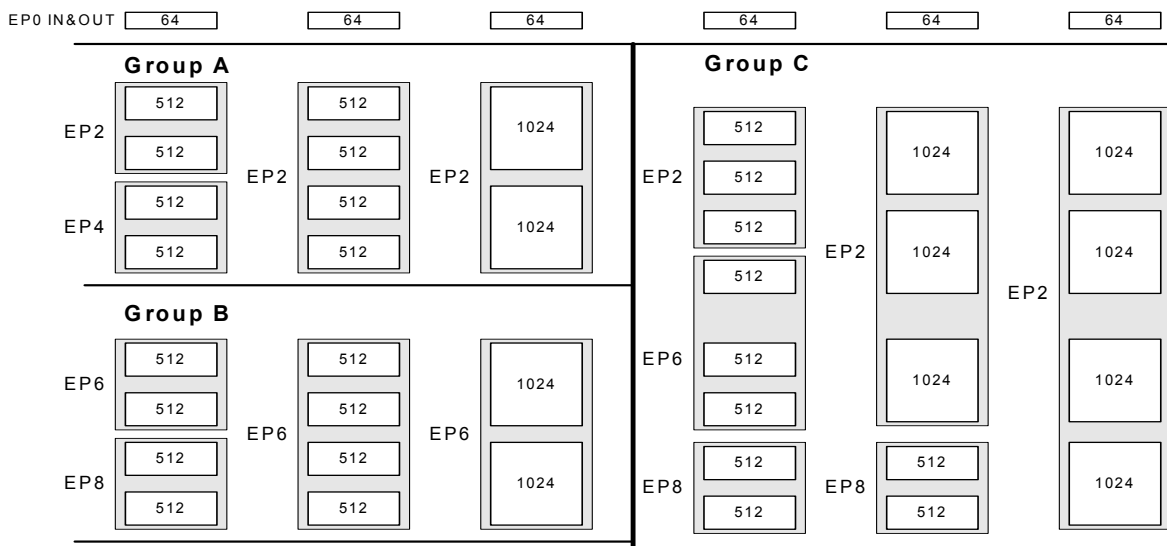

Figure 3-1. Endpoint Configuration
- EP2, 4, 6, 8-Eight 512-byte buffers, bulk, interrupt, or isochronous. EP2 and EP6 can be either double-, triple-, or quad-buffered. EP4 and EP8 can only be double-buffered. For high-speed endpoint configuration options, see *Figure 3-1*.
Endpoint 0 is the same for every configuration as it serves as the CONTROL endpoint. For Endpoints 2, 4, 6, and 8, refer to Figure 3-1. Endpoints 2, 4, 6, and 8 may be configured by choosing either: